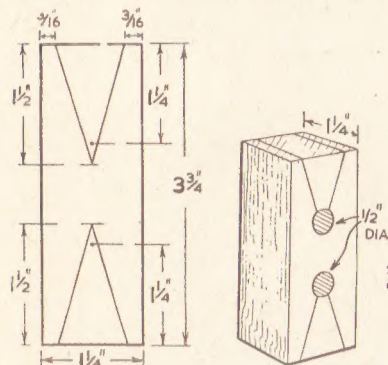

Fig. 1—Marking out, and cutting the clown block
The toy is by no means difficult to make, nor will it take long to construct. Fig. 1 shows three stages in making the clown block. A piece of wood of $1\frac{1}{4}$ ins. by $1\frac{1}{4}$ ins. section and $3\frac{3}{4}$ ins. long is
marked out, as in Fig. 1 (A). Holes, $\frac{1}{2}$ in. diameter, are then bored through, as seen in (B) Fig. 1, and finally the block is gripped in the vice and the wedge-shaped pieces cut out with a tenon saw. It is most important to get these openings quite smooth. Bored holes may be rough, so it will be necessary to get busy with the glasspaper.